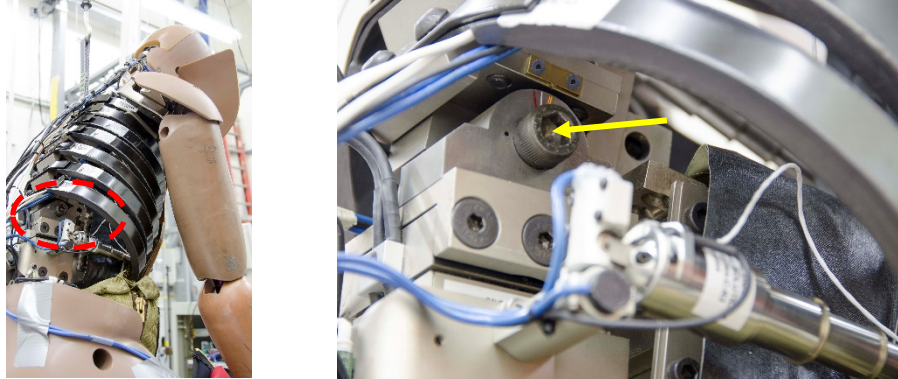

Figure 5-31. Lumbar spine pitch change mechanism adjustment SHCS (M12)
- 5.3.1.2 Locate the M12 x 1.75 x 60 mm SHCS on the right side of the lower spine, as indicated in Figure 5-31.